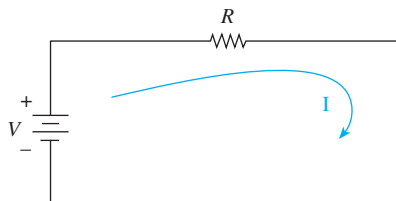

Figure F-1 Series circuit used to illustrate Ohm's law.
Definitions for Figure F-1
- (a) Determine the current (I) in the circuit of Figure F-1 if $V = 10 \text{ V}$ and $R = 2 \Omega$.
- (d) Calculate the voltage required in Figure F-1 to make 2 A flow if $R = 10 \Omega$.
- (f) If $V = 12 \text{ V}$ in Figure F-1, what resistance is required to limit the current to 2 A ?
Apply the values listed below to the circuit of Figure F-1 to determine the unknown quantity.